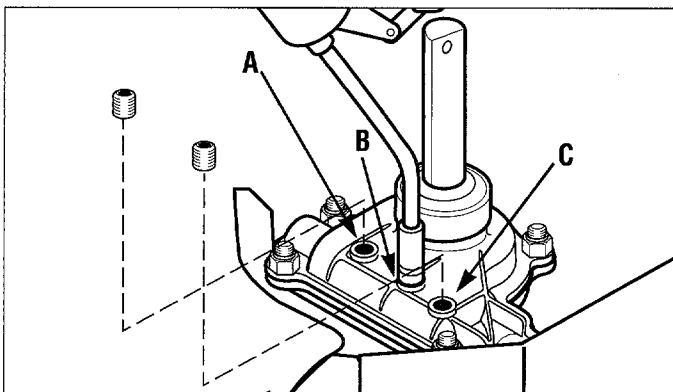

Figure 16: Transmission housing lubricant check and fill locations (A,B,C). Refer to text for instructions.
- Remove all three threaded plugs (Figure 16) from the transmission with a hex wrench. Lubricant should be visible in the top two holes. If so, replace all plugs. If lubricant is needed, proceed as follows.